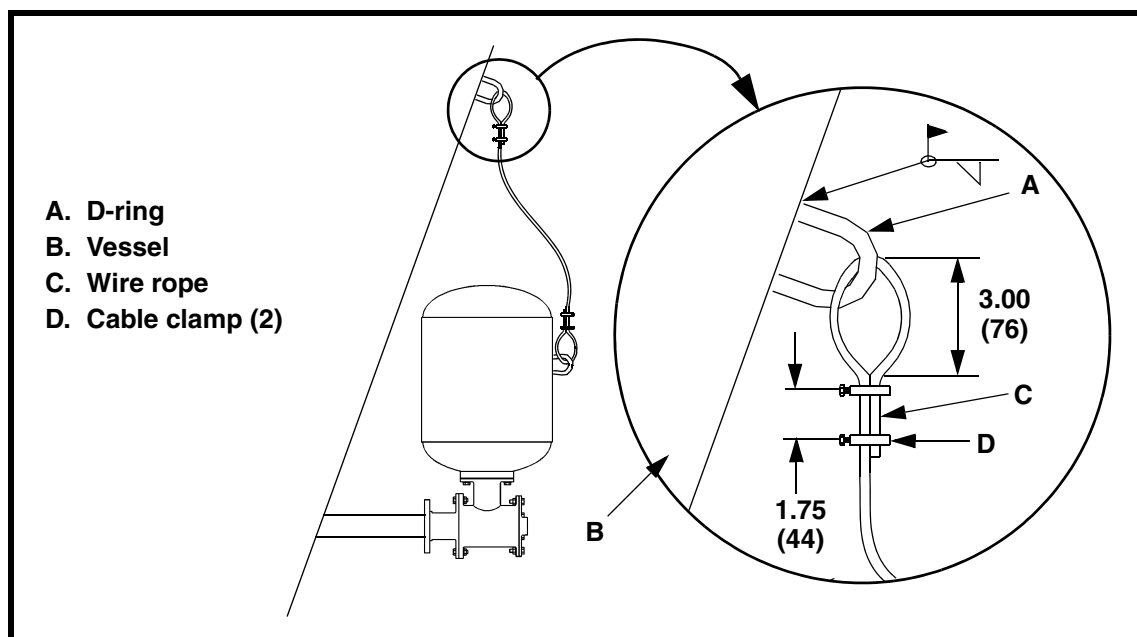

Figure 12. Installing Restraining Cable
1. Weld D-ring (A, Figure 12) onto storage vessel (B) with 1/4-in. (6-mm) field weld.